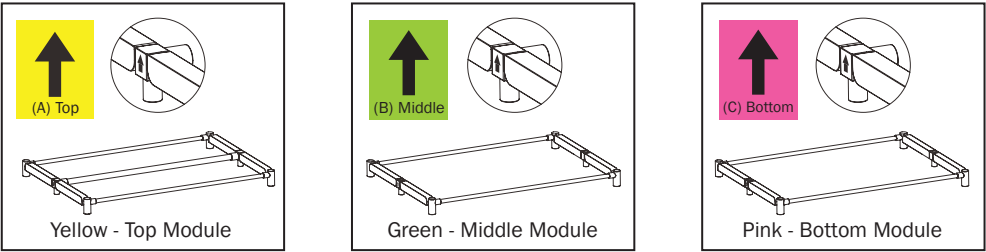

Fig. 1
1. Prepare the 3 coloured modules on the floor, as seen below (Fig. 1).